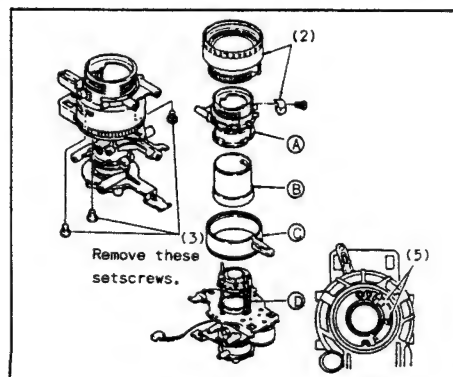

Fig. II-26
## 2-2-9 Replacement of Zoom Ring (Refer to Fig. II-26)
- (1) Attach the cam ring and the zoom ring to the fixed lens barrel.
- \* Note: Engage the cam ring with the part (E) of the zoom ring.
- (2) Set the zoom lever to position (H). Mount the fixed lens barrel straight gradually.
- \* Note: Align the zoom shafts (F) x 3 with the positioning holes (G) on the fixed lens barrel.
- (3) Set the zoom ring to the telephoto end position. Attach the variator retaining plate spring. (See Fig. II-26 (5))
- (4) While taking care not to allow the fixed lens barrel to come off, turn the focus side down.
- (5) Secure the fixed lens barrel to the relay holder with three setscrews.
- (6) Mount the focus lens a'ssy. on the fixed lens barrel.
- (7) Attach the N stopper to the fixed lens barrel.
- (8) Install the AF block, AF C.B.A., AF motor and PZ motor.
- (9) Check each section if operates properly.
- (10) Perform AF distance measuring adjustment. If deviated, adjust it.